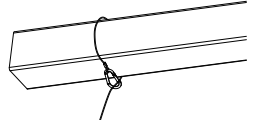

Figure 38
- 3.Fasten the other end of the wire rope to the outlet box or the mounting structure of the outlet box. (Figure 38).